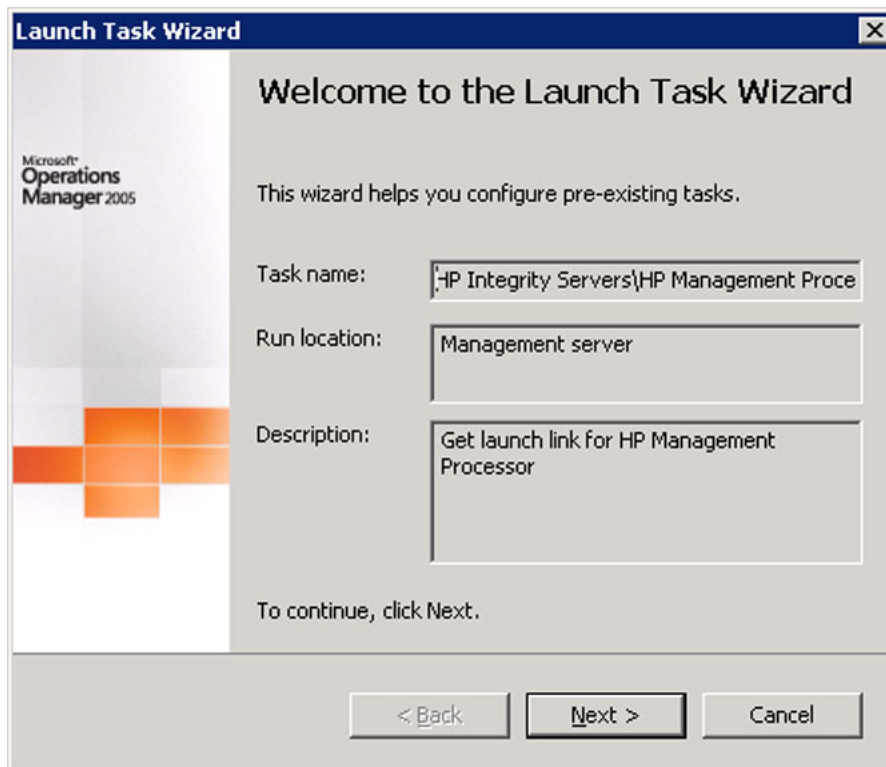

Figure 3-26: HP Management Processor task— Launch Task Wizard welcome
6. Select **HP Management Processor**. The Launch Task Wizard opens, as indicated in Figure 3-26.